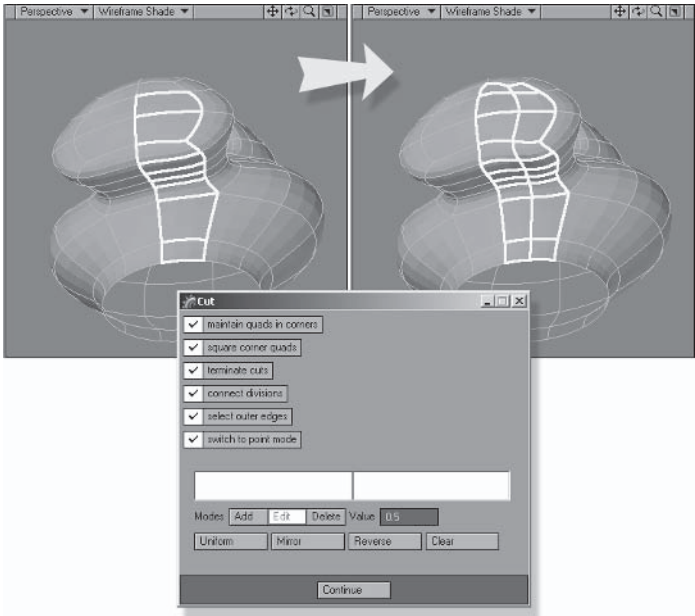

Figure 5.3-19. Cut works like BandSaw but can cut an arbitrary selection, even around corners.
11. Some additional bands under the nose will help the definition. Turn off Symmetry for this as we are working up against the $X=0$ symmetry boundary. Select the polygons shown in Figure 5.3-19 and select **Multiply>Subdivide>Cut**. Make sure all the options are checked and leave the rest at the default values. Click **Continue** to confirm.